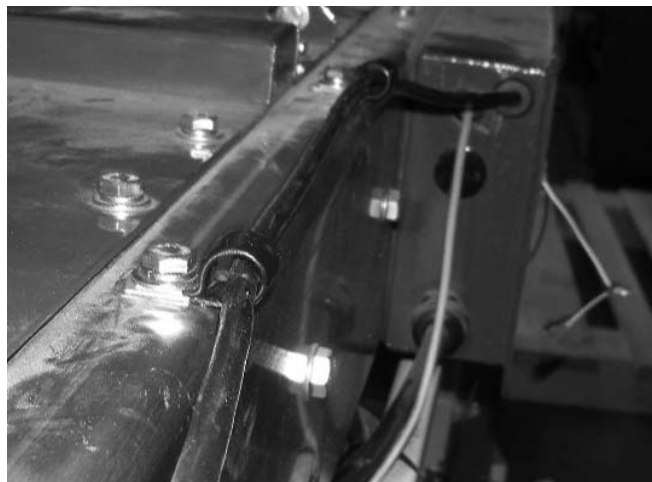

FIGURE 12: CABLE CLAMPS
17. Add blue Loctite to hex screw then re-install hex screws with cable clamp to secure Stow-Lock Harness (P/N 20106), as shown in **Figure 12**. Set torque wrench to 8-10 LB-FT to torque these fasteners properly.